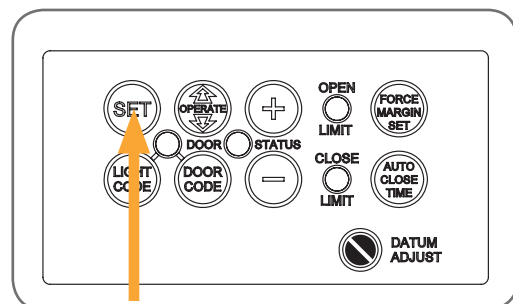

fig 45
- Press and hold the SET Button for two (2) seconds, the beeper will sound once (**Fig 45**).
- The door will start to move and re-calculate force margins. The door can move between the open and close limit positions up to four (4) times (depending on the position of the door and the power up condition).